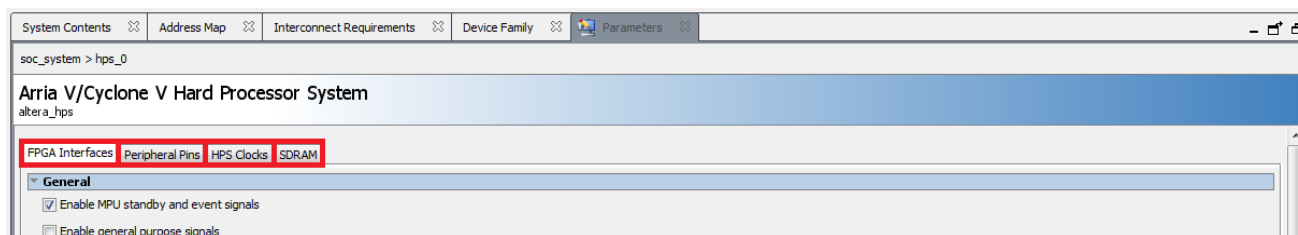

Figure 8-5. HPS Component Parameters
16. Open the HPS' parameters and have a look around. There are 4 tabs that control various aspects of the HPS' behaviour, as shown on Figure 8-5.